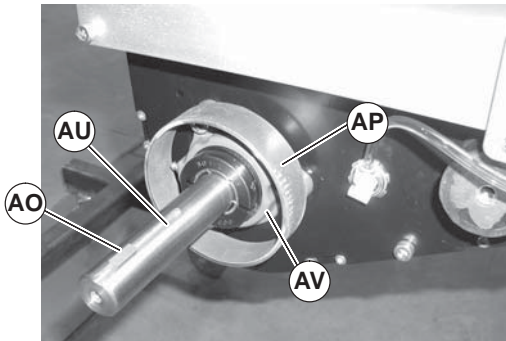
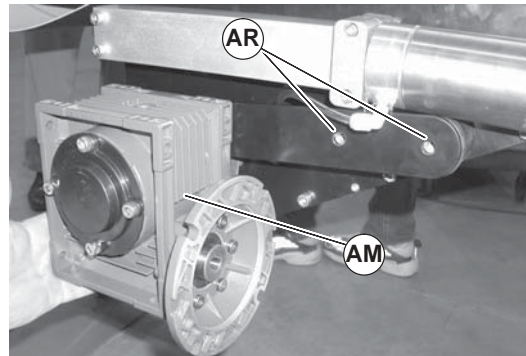

Figure 19
Figure 21
3. Install key (Figure 19, item AO) on drive shaft (AU). Install cover (AP) over bearing housing (AV)
5. Slide gearmotor (Figure 21, item AM) on to drive shaft (Figure 19, item AU). Tighten mounting screws (AR) to 200 in-lbs (22.5 N-m).